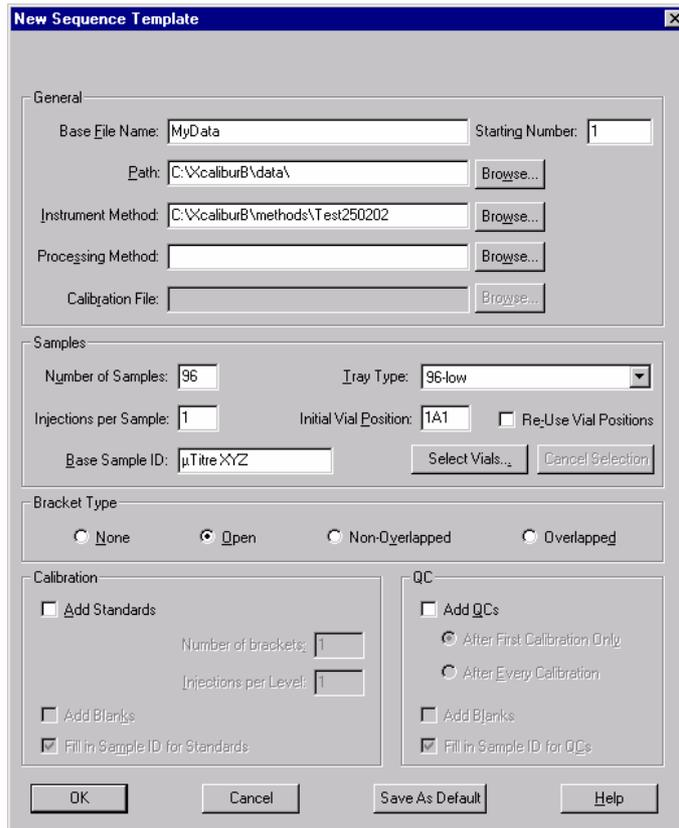

FIGURE 2-42 The New Sequence Template Window
- a) Choose **File** menu and then **New** to open the **New Sequence Template** window (FIGURE 2-42).